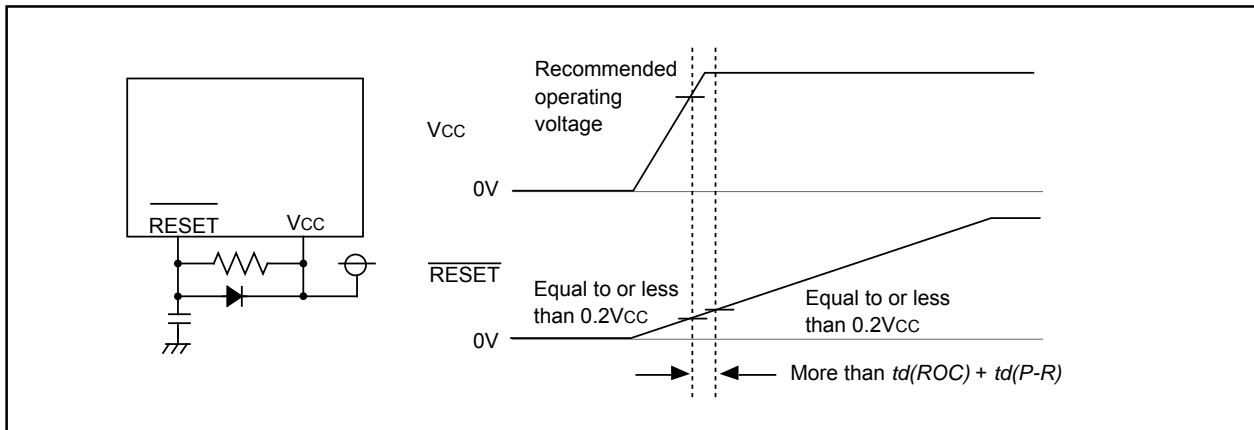
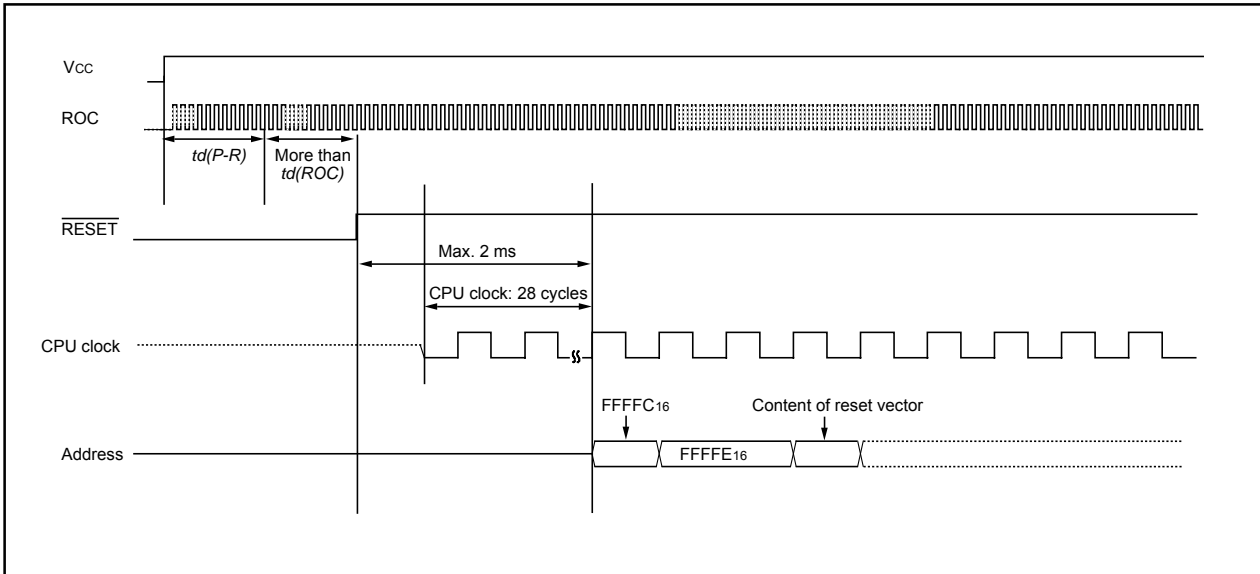
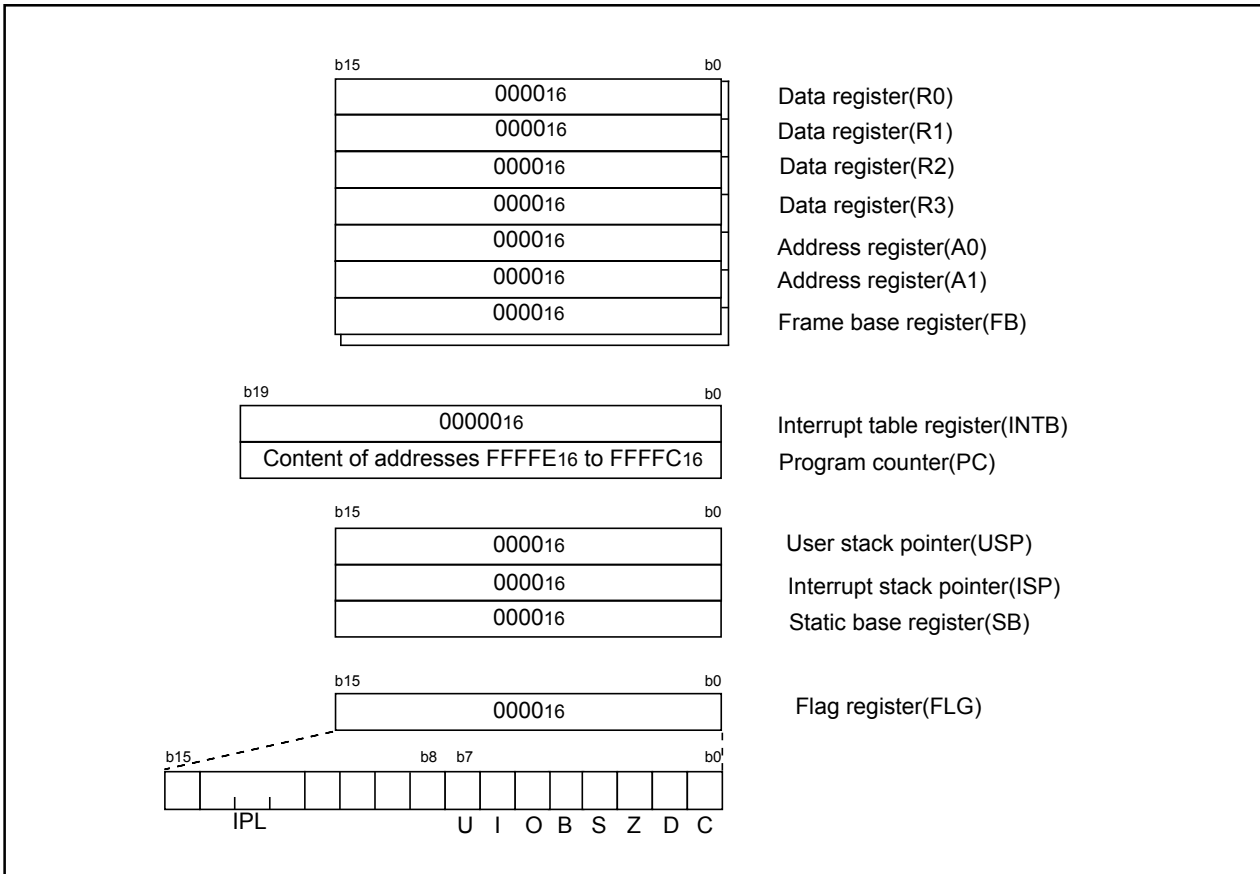

Figure 5.1 Example Reset Circuit
Figure 5.2 Reset Sequence
Figure 5.3 CPU Register Status After Reset
**Figure 5.1** shows an example of the reset circuit. **Figure 5.2** shows a reset sequence. **Table 5.1** shows status of the other pins while the  $\overline{\text{RESET}}$  pin is held “L”. **Figure 5.3** shows CPU register states after reset. Refer to **4. Special Function Register (SFR)** about SFR states after reset.